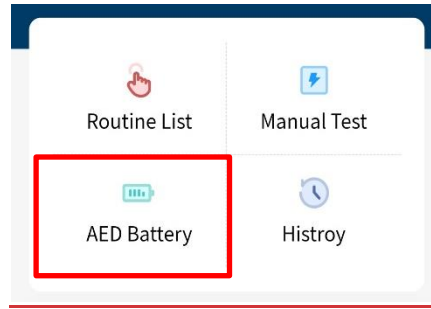

Figure 2: AED Battery Button on Whaleteq DFS APP
3. Click "AED Battery" on the APP (as shown in Figure 2):